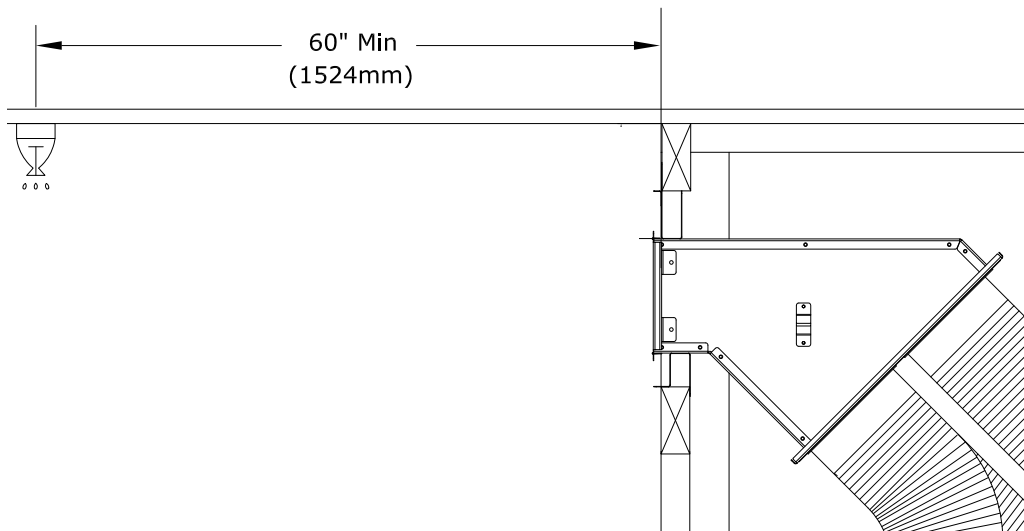

Figure 4.17 - Clearance to Sprinkler
- Figure 4.17 shows a side KZK whereas your installation may look different.